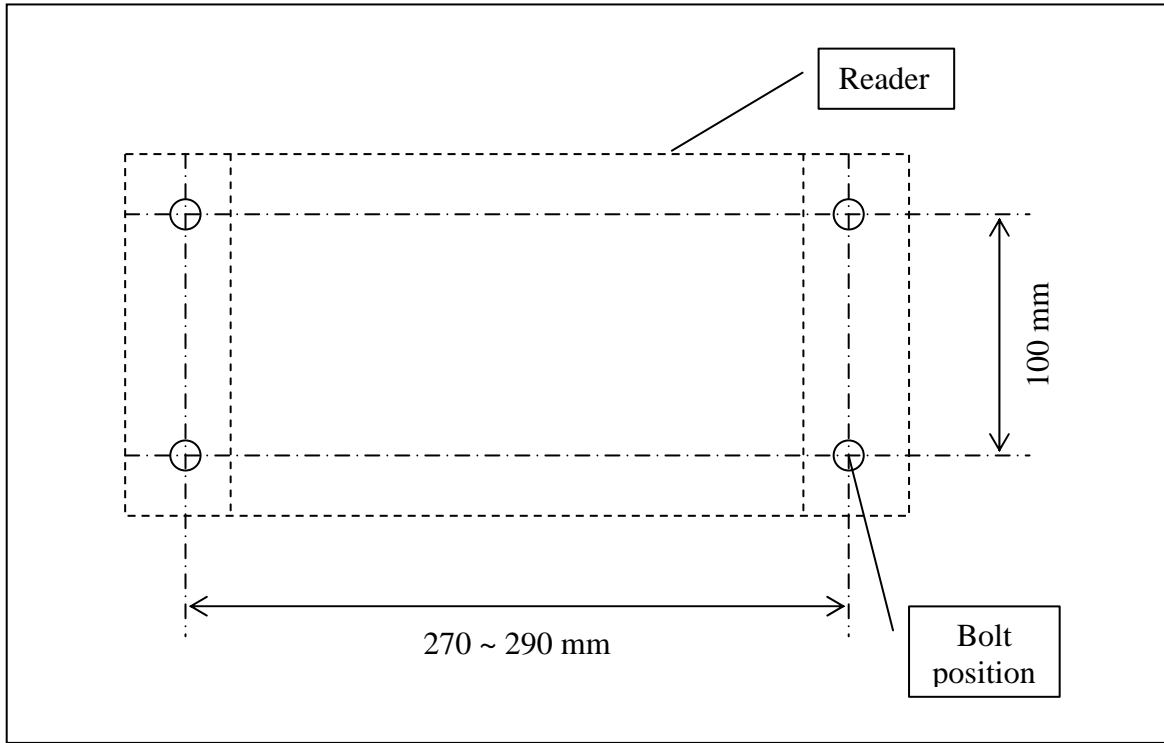

Fig. 1
There are must be used bolt M4 or M5 for Reader mounting. Mounting Bolts placement and dimension depicted on Figure 1.
- Reader to PC according to Fig. 1 in section 6 of this manual;
RS-232 Connection cable between Reader and PC depicted on Fig. 1